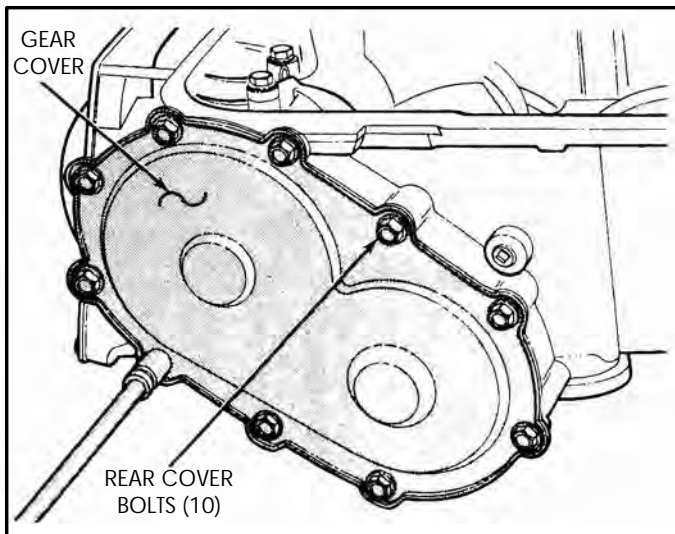

Figure 208
14. Now torque the ten transfer gear cover bolts to 19 N·m (14 ft.lb.), as shown in Figure 208.